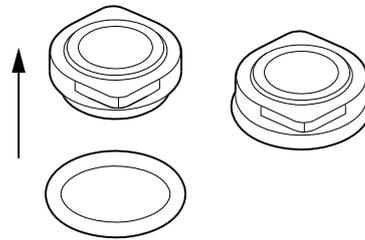

Fig. 17 Fitting the O-ring on the stationary shaft seal part
1. Fit discharge part (pos. 2).
2. Fit and tighten screws (pos. 2b). See section 3. *Tightening torques and lubricants*
3. Fit O-ring (pos. 102) on the stationary shaft seal part. See fig. 17. See section 3. *Tightening torques and lubricants*.